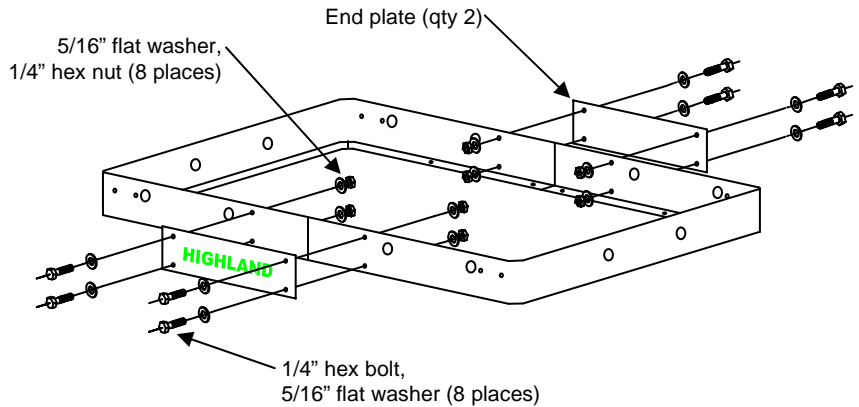

FIGURE 1.
- Align both halves of the basket on the ground, attach each end plate to the outside of the basket as shown in Fig 1 and fasten loosely with (8) 1/4" bolts, (16) 5/16" flat washers, and (8) 1/4" hex nuts.